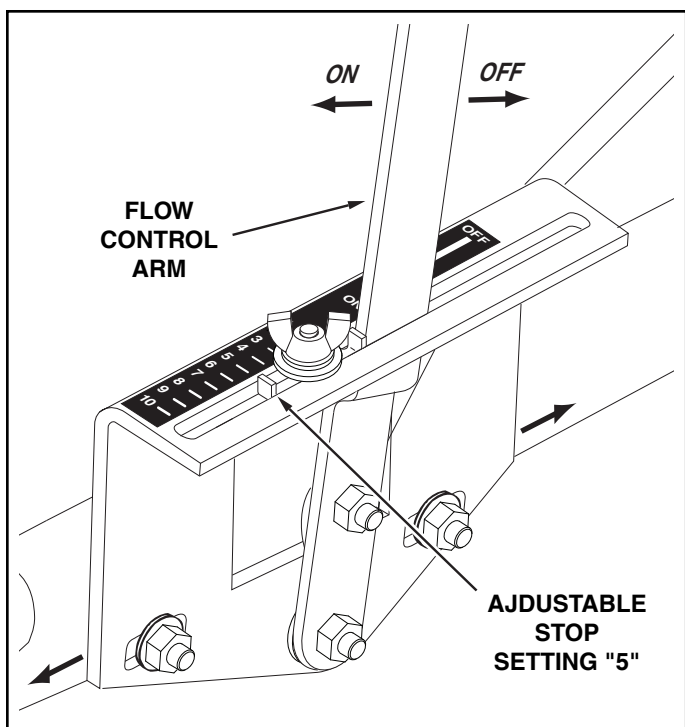

FIGURE 7
12. Position the flow control mounting bracket (figure 7).
(Refer to figure 7 on page 4.)